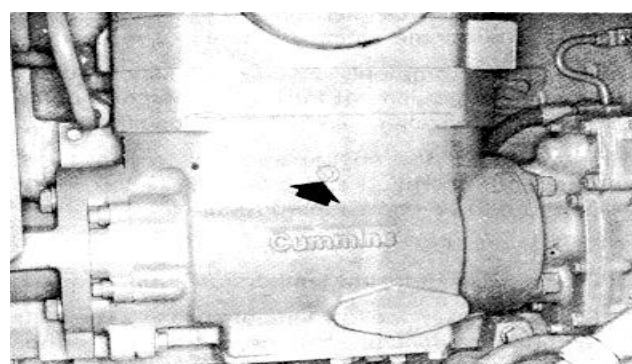

Fig. 1-20, (K21904). Two cylinder air compressor coolant drain
2. Drain the cylinder block and heads on all engines by opening the petcocks and removing the drain plugs as shown in Fig's. 1-13 to 1-19. If an air compressor (Fig. 1-20), heat exchanger or other "water cooled" accessory is used, open the petcock and drain. Failure to properly drain the engine and accessories may cause serious damage during freezing weather.